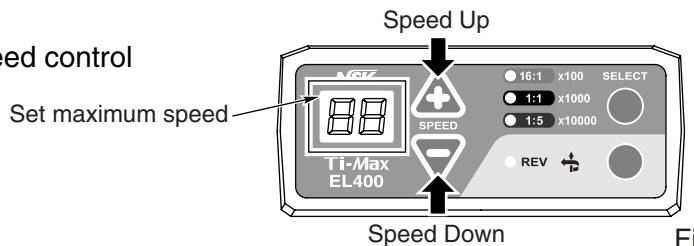

Fig.8
- ③ Set the maximum speed using the speed control switches. (Fig. 8)